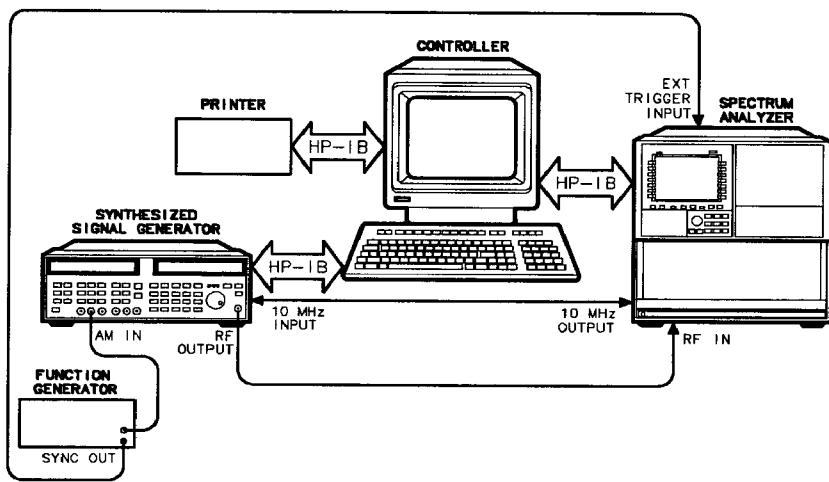

Figure 7-6. 1—20 GHz AM Linearity Calibration Equipment Setup
1. Set up the equipment as shown in Figure 7-6.